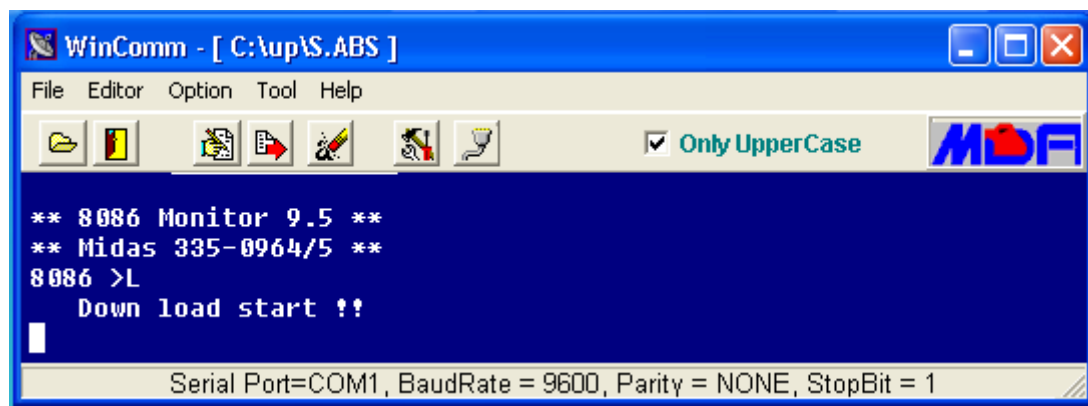

Fig. 1.9 Loading an ABS File
- Type L and press Enter. A message will appear in the window "Down load start !!" as shown in Fig. 1.9.